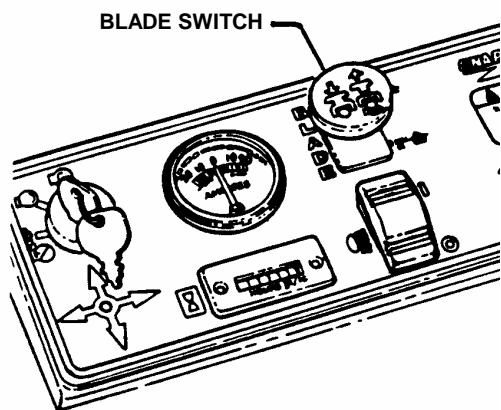

FIGURE 3.2
3.1.4. Check Blade switch to insure it works freely. Switch is pulled "OUT" for blade engagement or pushed back "IN" for blade disengagement. See Figure 3.2. **IMPORTANT:** Disengagement stops blades.
3. Push blade switch in to "OFF", blades are in disengaged position and engage parking brake. See Figure 3.2.
2. Pull the Blade Switch out to the "ON" position to engage the mower blades. See Figure 3.2.